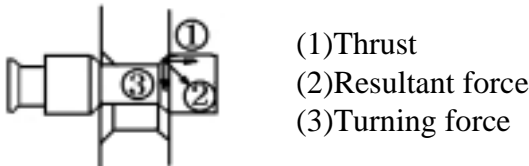

Fig. 5-6 Synchro-ring and cup
When hub(2)is pushed further,the tapered surface in the hole of the hub and the tapered surface on the block pin are pressed tightly against each other,this pushes synchro-ring(4) against synchro-cup(5).Consequently,as shown fig.5-6,the synchro-ring and the synchro-cup are pressed more tightly against each other by the resultant turning force of the rear wheel and the thrust of the shifter.Ultimately,the revolving speeds of the synchro-ring and the synchro-cup become the same.